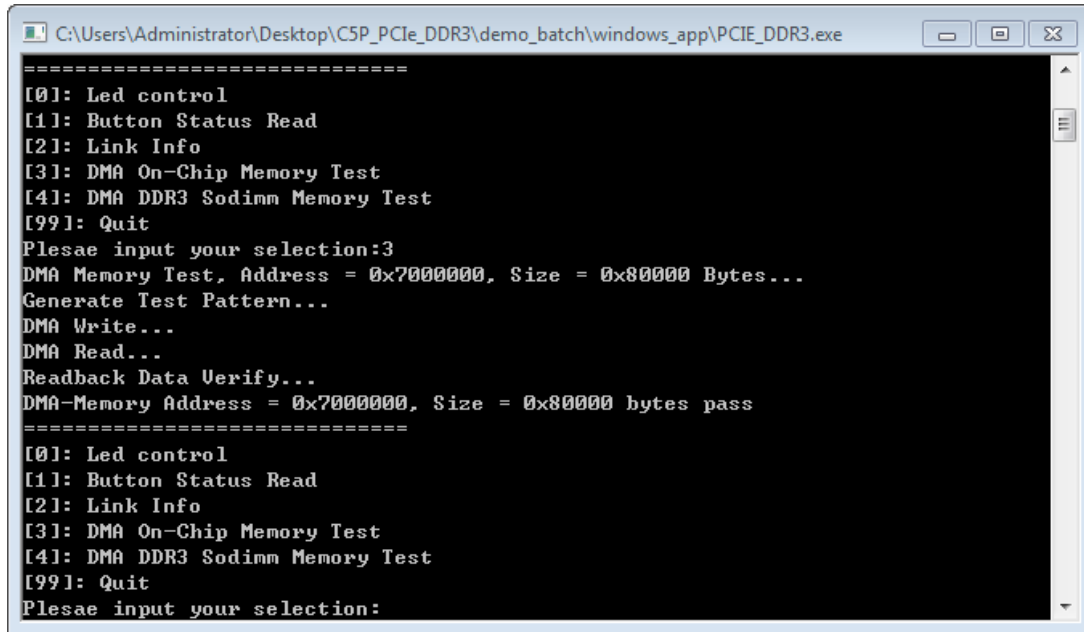

Figure 7-17 Screenshot of the On-Chip Memory DMA Test Result
7. Type 3 followed by the ENTER key to select the DMA On-Chip Memory Test item. The DMA write and read test result will be reported as shown in **Figure 7-17**.